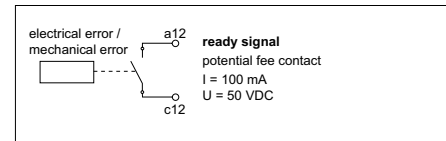

figure 5: output - ready signal
- Ready signal:** (see fig. 5 and 6) an **electrcal error** (under voltage, short circuit or over temperature) respective **error mechanical** (only for SE...E50..) inverts the signal. In non-error condition the relay contact is closed.